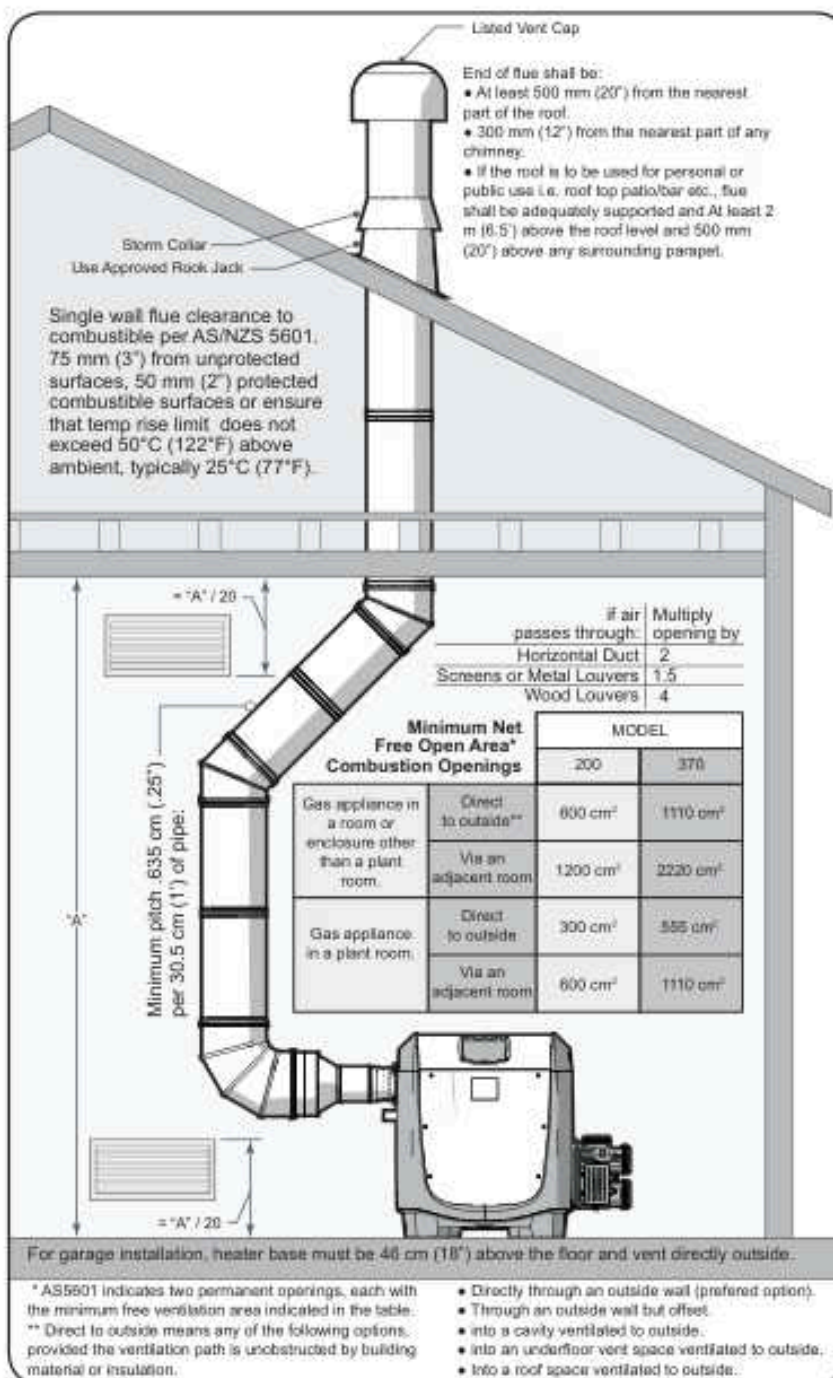

Figure 4. Indoor and Outdoor Shelter Installation
When combustion air is supplied directly through an outside wall, each opening should have a minimum free area of 25.4 mm square (1 in²) per 1.2 kW input of the total input rating of all appliances in the enclosed area. If combustion air must pass through horizontal ducts, each opening should have a minimum free area of 25.4 mm square (1 in²) per 1.2 kW input of the total input rating of all appliances in the enclosed area. Details can be found in *Figure 4*.
The "Minimum Net Free Open Area" information from *Figure 4* is not applicable in installations where exhaust fans or blowers of any type are used. Any equipment which exhausts air from the room where the heater is installed can deplete the combustion air supply or reverse the natural draft action of the venting system. This could cause flue products to accumulate in the room. Additional air must be supplied to compensate for such exhaust. Consult a professional engineer to ensure that installations where exhaust fans or blowers are used are designed and installed in accordance with all applicable local and national installation codes.
- **STATIC PRESSURE - NEGATIVE:** Appliance operates with a negative vent static pressure, a vent gas temperature that avoids excessive condensate production and will vent vertically terminating at the roof. Termination must pass through a properly installed and approved roof jack, a properly sized storm collar and a listed vent cap. See *Figure 4*.
- **Do Not** incorporate more than three elbows. Horizontal runs of vent piping may be used but must not exceed 4.9m (16 ft.) in length and must always maintain the minimum pitch/slope for any horizontal runs, as specified in *Figure 4*.